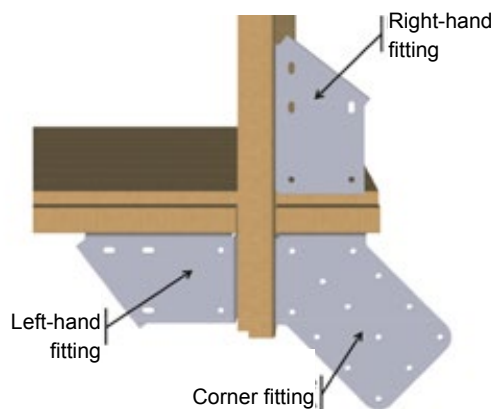

Figure 19 – Mounting the fitting in the corners
- In each of the corners, mount a right-hand fitting, a left-hand and a corner fitting as shown in *Figure 19*. Use 4 hinge screws 6 × 20, A2 SS (bag G) per corner fitting 6 hinge screws 6 × 20 in A2 SS (bag G) per left- and right-hand fitting, that is a total of 64 screws.